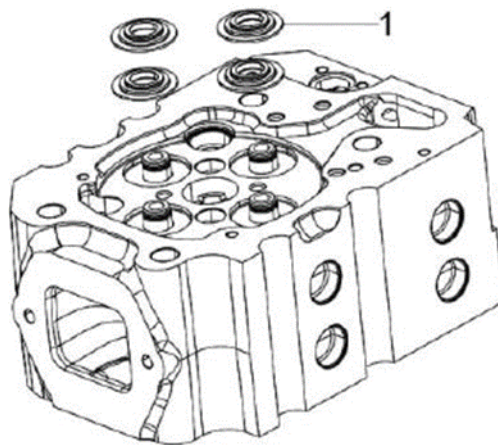

Figure 78. Valve Spring Retainer
1. Install the valve spring bottom retainer (Figure 78, item 1).